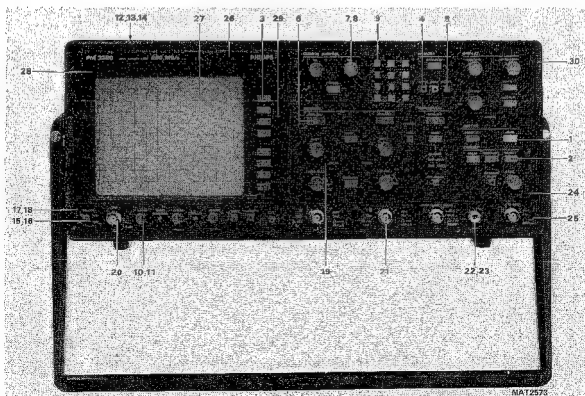

Figure 15.1 Mechanical parts front side.
15.1.1 Mechanical + electrical parts front side (figure 15.1)